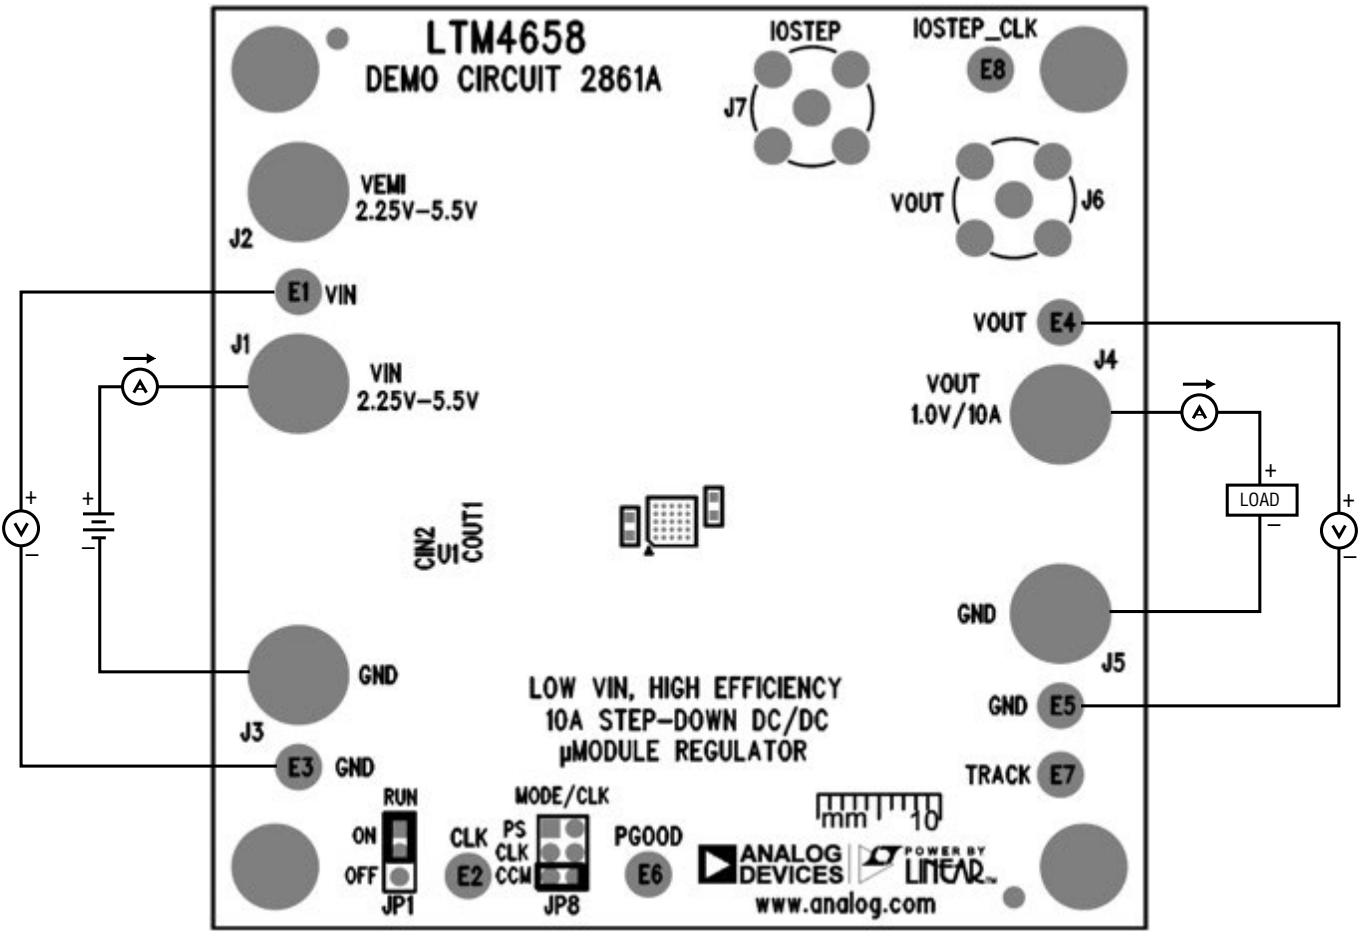

Figure 1. Measurement Setup of DC2861A
Demonstration circuit 2861A is an easy way to evaluate the performance of the LTM4658. Please refer to Figure 1 for proper measurement equipment setup and follow the procedure below:
- With power off, connect the input power supply, load and meters as shown in Figure 1. Preset the load to 0A and V_{IN} supply to 3.3V.